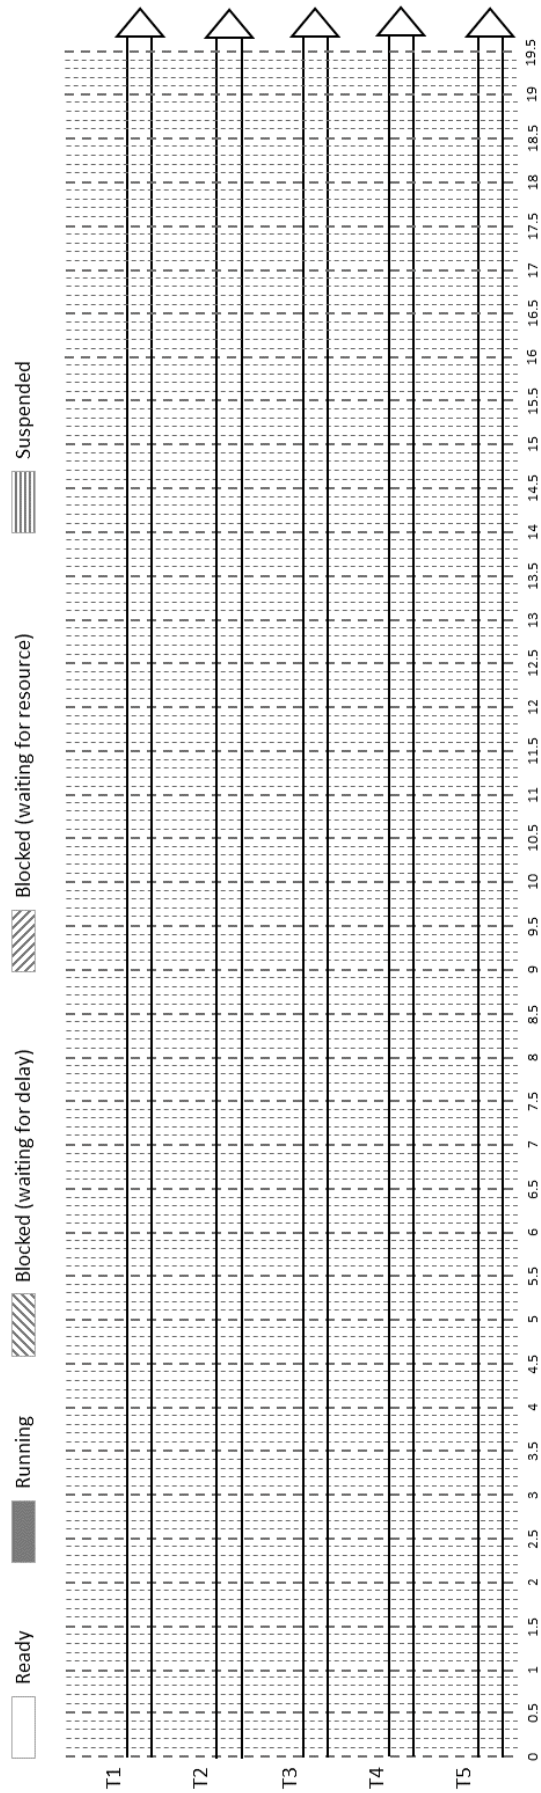

FIGURE 1.3 – Non Preemptive Priority scheduling trace.
3. Scheduling with priority without preemption (Non Preemptive Priority scheduling), the priorities being as follows :  $P(T_1) = 2$ ,  $P(T_2) = 4$ ,  $P(T_3) = 2$ ,  $P(T_4) = 1$ ,  $P(T_5) = 3$ . A higher priority corresponds to a greater number (0 = lower priority). Always use FCFS for arrival order (cf figure 1.3).